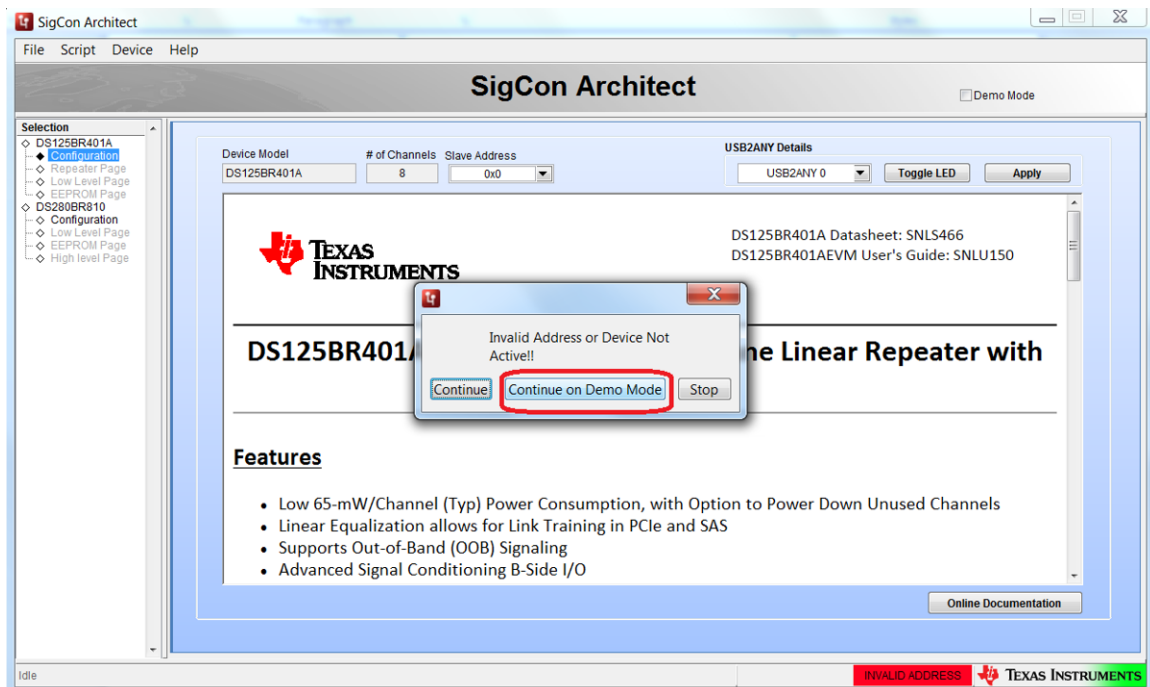

Figure 4. SigCon GUI—Demo Mode
- (a) As Figure 4 shows, when a pop-up message appears, click the *Continue on Demo Mode* button.